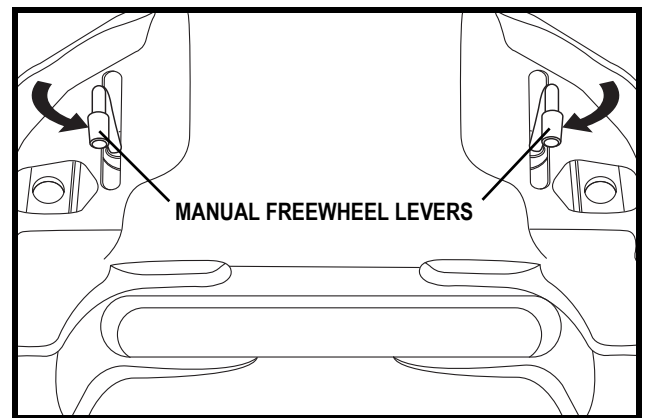

Figure 8. Drive Engaged (Drive Mode)
2. Turn the freewheel levers inward to engage the drive motors (drive mode). See figure 8.
1. Make sure the power chair is in drive mode. See **figure 8**.
2. Make sure the power chair is in drive mode. See **figure 8**.